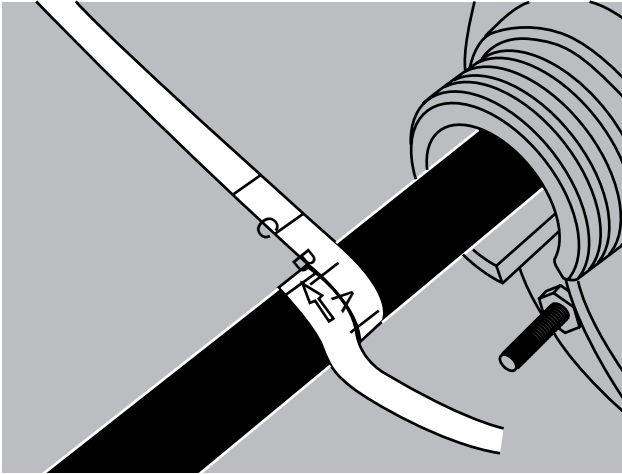

Figure 5
5. Measure the circumference of each express or drop cable entering the closure with the grommet measure tape to determine which size grommets are required to complete the sealing process. (Figure 5)